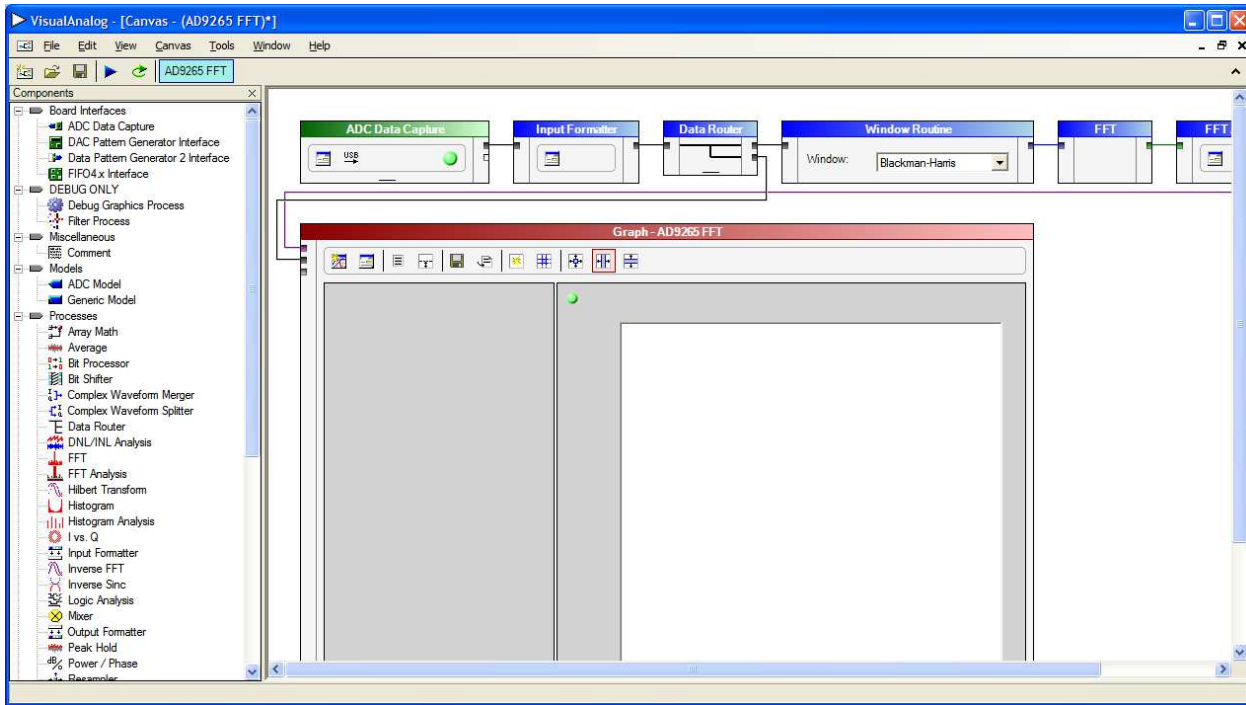

Figure 7. VisualAnalog, Main Window
3. To change features to settings other than the default settings, click the **Expand Display** button, located on the bottom right corner of the window, to see what is shown in Figure 7. Detailed instructions for changing the features and capture settings can be found in the AN-905 Application Note, VisualAnalog Converter Evaluation Tool Version 1.0 User Manual. After the changes are made to the capture settings, click **Collapse Display** (see Figure 7).
- In **VisualAnalog** (see Figure 7), click the **Settings** button in the **Input Formatter** block. Check that **Number Format** is set to the correct encoding (offset binary by default). Repeat for the other channel.
- Make sure the correct FPGA program was installed by selecting the **Settings** button in the **ADC Data Capture** block in **VisualAnalog** (see Figure 7). Then select the **FPGA** tab and verify that the proper FPGA bin file is selected for the part.